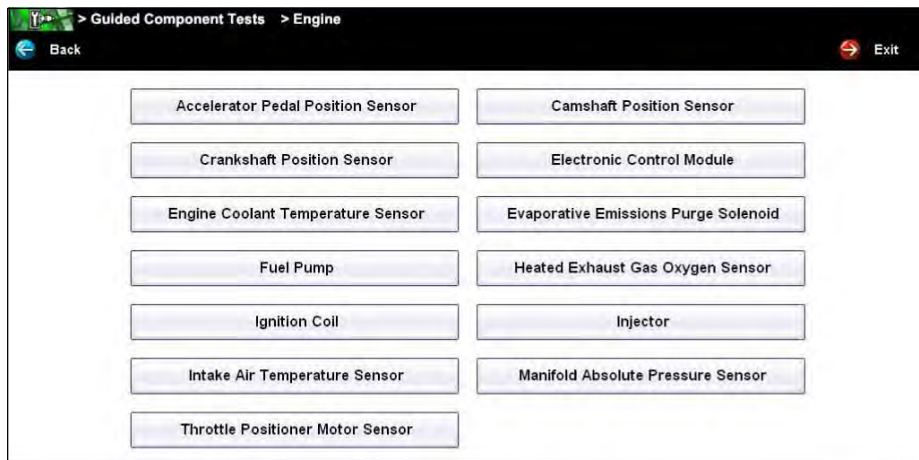

Figure 7-5 Sample available component tests list
- Select **ENGINE** and a component test menu displays (Figure 7-5).